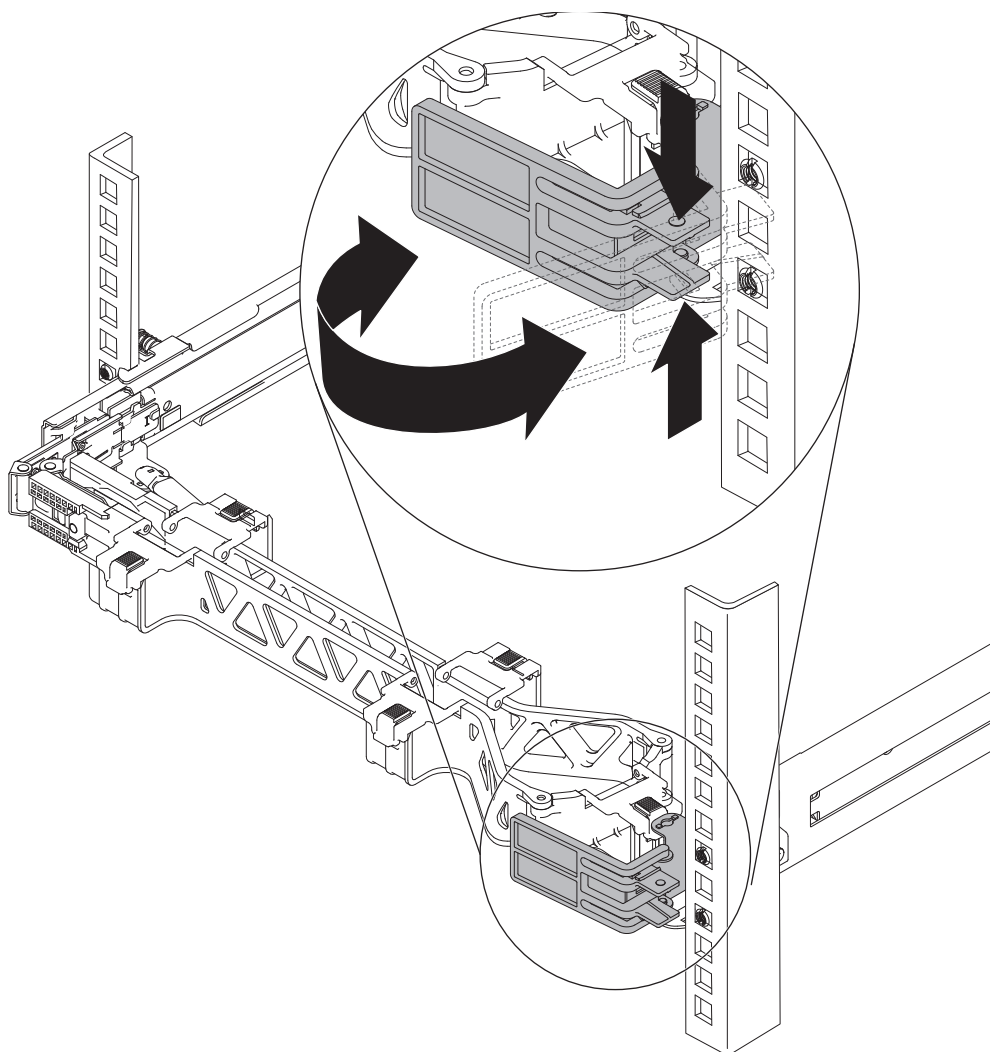

Figure 24. Closing the cable management support stop
5. Close the cable management support stop, as shown in Figure 24 on page 30.